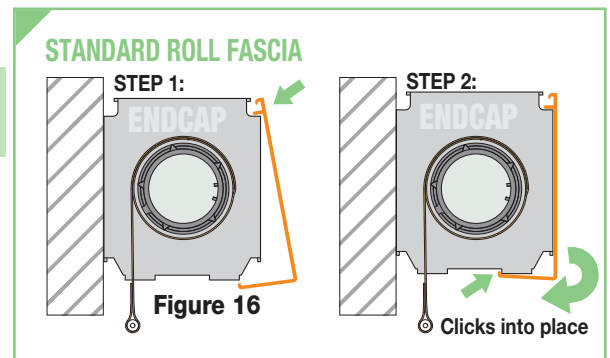

Figure 16
1. Place groove along top of fascia over endcaps, and snap into place (Fig. 16).